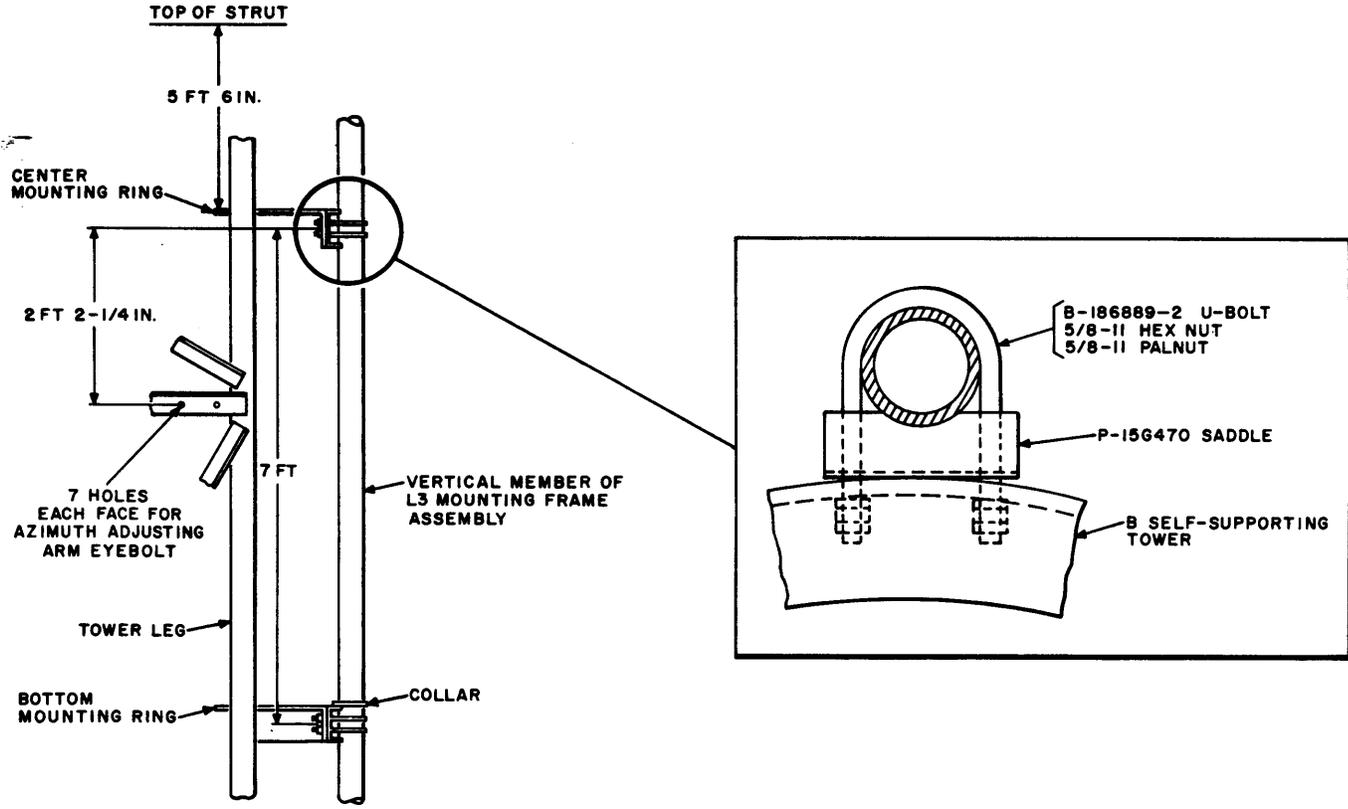

Fig. 10—Antenna Installation on AT-7729 B Self-Supporting Tower
5.17 All installation procedures are shown in Fig. 10. Hoist the antenna to the installation level and guide it into position against the center and bottom mounting rings of the tower.